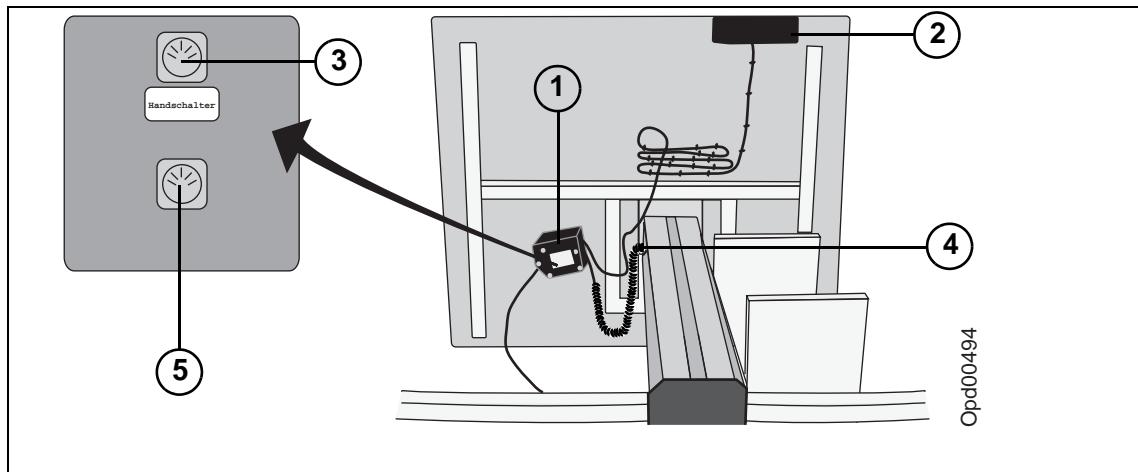

Fig. 9 Transformer
1. Remove the screws on the underside of the tabletop and use them when mounting the transformer (1/Fig. 9). Place the transformer so that the connectors are turned to the column.
2. Connect the cable from the control unit (2/Fig. 9) for the vertically adjustment to the connector marked "Handschatler" (3/Fig. 9).
3. Connect the cable from the motor (4/Fig. 9) for the vertically adjustment to the other connector (5/Fig. 9).